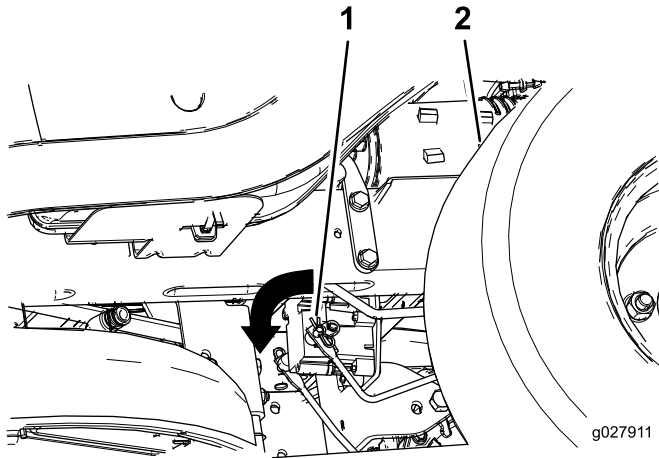

Figure 39
2. Locate the shafts where the brake-link arms are connected on both sides of the electric brake (Figure 39).